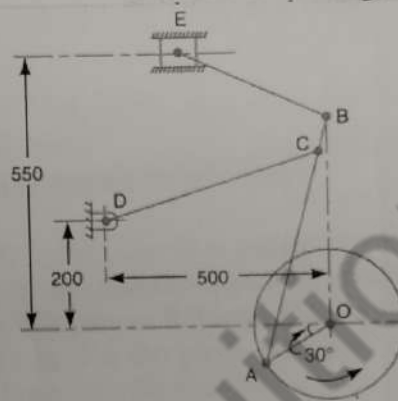

Figure 2
Q.4 A. The mechanism as shown in fig. 2 of a radial valve gear. The crank OA turns uniformly at 150 r.p.m and is pinned at A to rod AB. The point C in the rod is guided in the circular path with D as centre and DC as radius. The dimensions of various links are: OA = 150 mm ; AB = 550 mm ; AC = 450 mm ; DC = 500 mm ; BE = 350 mm. Determine velocity and acceleration of the ram E for the given position of the mechanism.